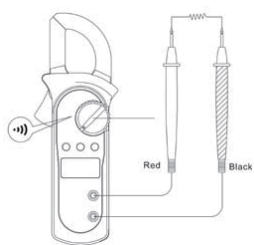

Figure 7
E. Testing for Continuity (See Figure 7)**⚠ Warning**